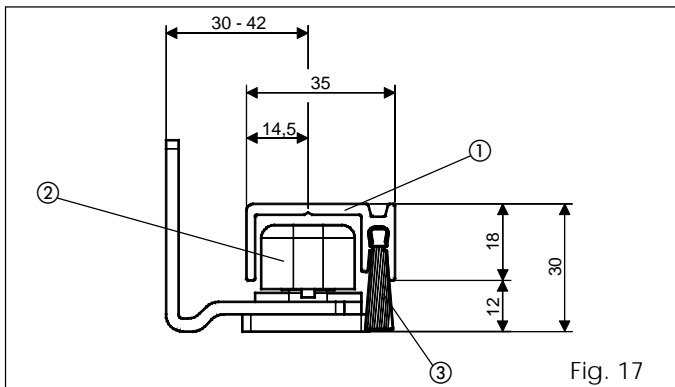

Fig. 17
- Assemble the sliding blocks, considering in mind the dimensions in figs. 17 and 19.